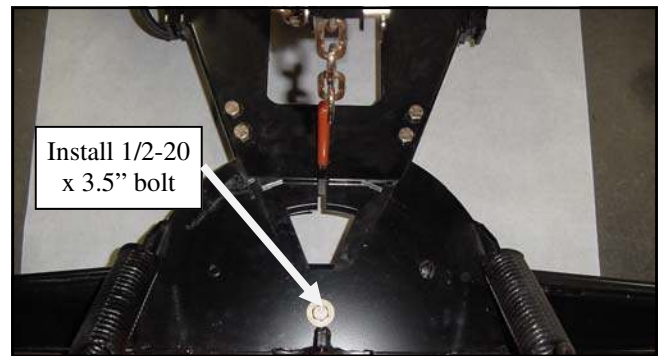

Fig. 7.2—A-Frame and Trip Frame
- 7.2 Per fig. 7.2, slide the A-Frame into the trip frame pocket, aligning the 1/2" bolt holes on both assemblies. Install the 1/2-20 x 3.5" hex head bolt with a 1/2" washer under the head of the bolt and under the lock nut. Tighten until all slack is removed from the bolt while the A-frame is allowed to rotate freely in the trip frame pocket.